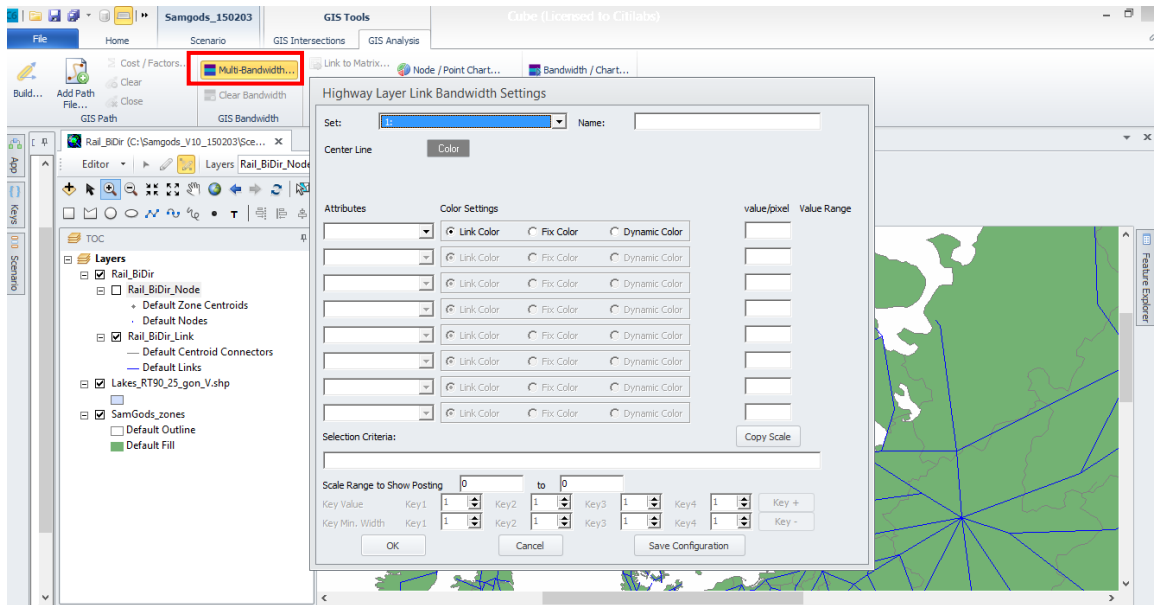

Figure 102 Multi-Bandwidth tool
- 8) Click on the tab "GIS Analysis" in the interface and click on "Multi-Bandwidth tool", see Figure 102.